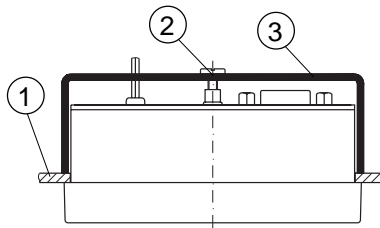

Fig. 2: Mounting EG30
- PE-connection with 2.5 – 4 mm² via PE-clamp (fig. 2).